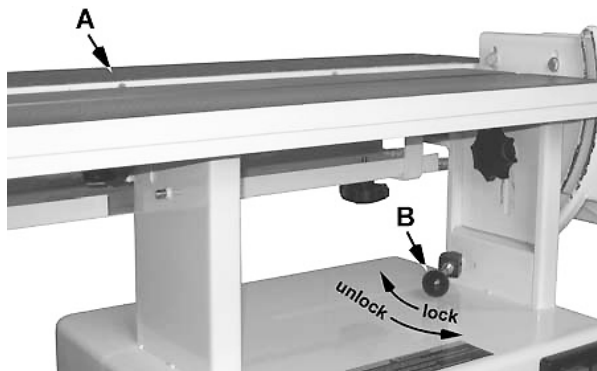

Fig. 15: Adjust grinding angle
- Step 2: Release the lock for the angle adjustment by loosening the clamping lever B (Fig.15).